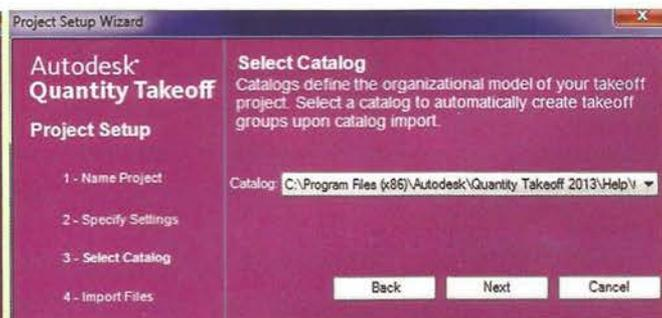

Fig 16: Catalog
- On the Select Catalog page, browse to C:\Program Files\Autodesk\Autodesk Quantity Takeoff 2012\Help\Getting Started (Metric)\Getting Started\_metric.att and Import. Click Next (Figure 16).